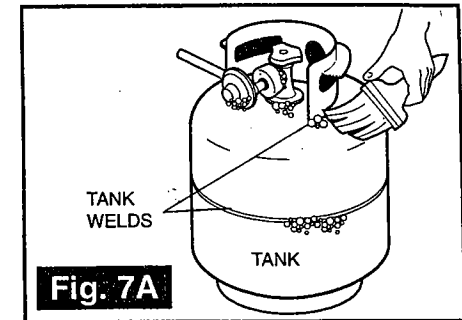

Fig. 7A
- All propane cylinder welds (see Figure 7A)